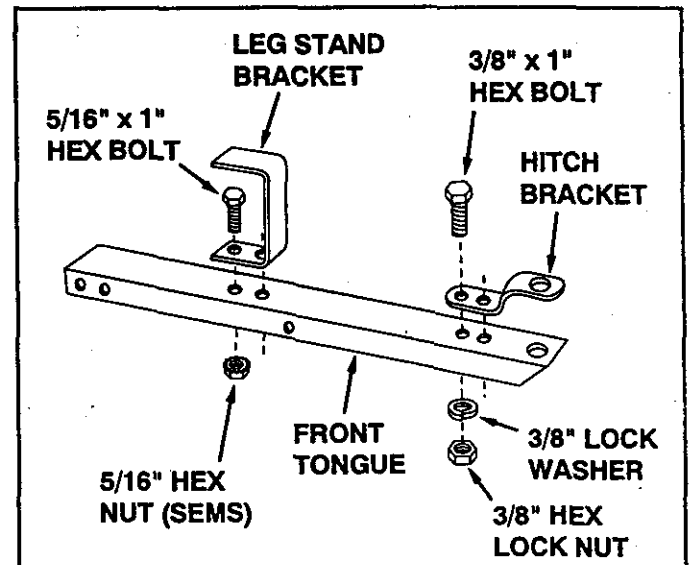

FIGURE 4
- Assemble the hitch bracket to the front tongue using two 3/8" x 1" hex bolts, 3/8" lock washers and 3/8" hex lock nuts. **Tighten.** See figure 4.
- Assemble the leg stand bracket to the front tongue using two 5/16" x 1" hex bolts and 5/16" (SEMS) type hex nuts. **Tighten.** See figure 4.